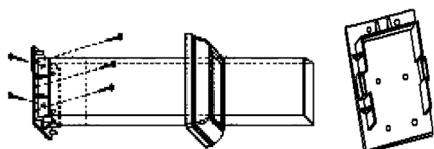

Figure 3:
8. Once all pickets are inserted, secure the rails to the rail base brackets with 4 self-drilling screws. If necessary, pre-drill with an 1/8" drill bit. Be careful not to overtighten the screws. Cover the base brackets with the trim covers. Secure the trim cover to the base bracket with a dab of glue on each tab of the trim cover (see figure 3).